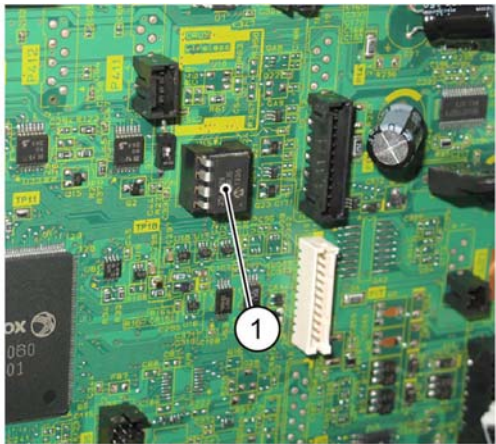

Figure 5 EEPROM
2. If a new drive PWB is to be installed, remove the EEPROM (1) from the old drive PWB, then install it onto the new drive PWB, Figure 5.